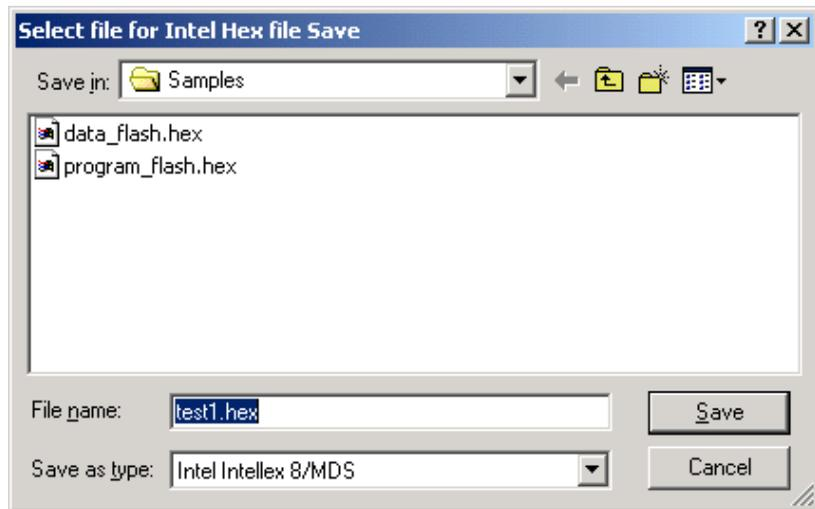

Figure 6-17. Specifying Folder and File for Saving CRISP Buffer
5. **Specifying Disk File Name.** After selecting a buffer under the Save command, a dialog box will open for specifying the folder and file name, as shown in Figure 6-17. Files are stored, by default, in Intel Hex format.